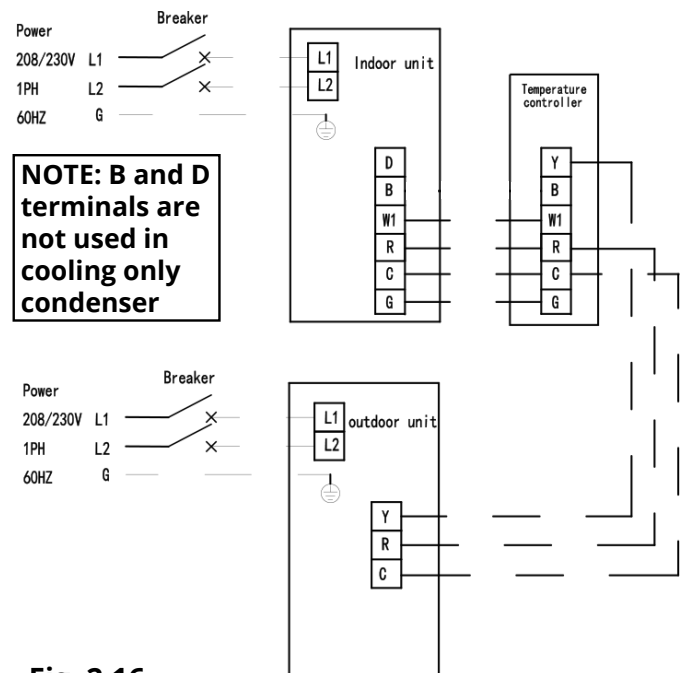

Fig. 2.16
**For all terminal wiring** (Refer to **Fig. 2.14 & 2.15 (2-3 ton unit)** or **Fig. 2.16 & 2.17 (4-5 ton unit)** on the next page):